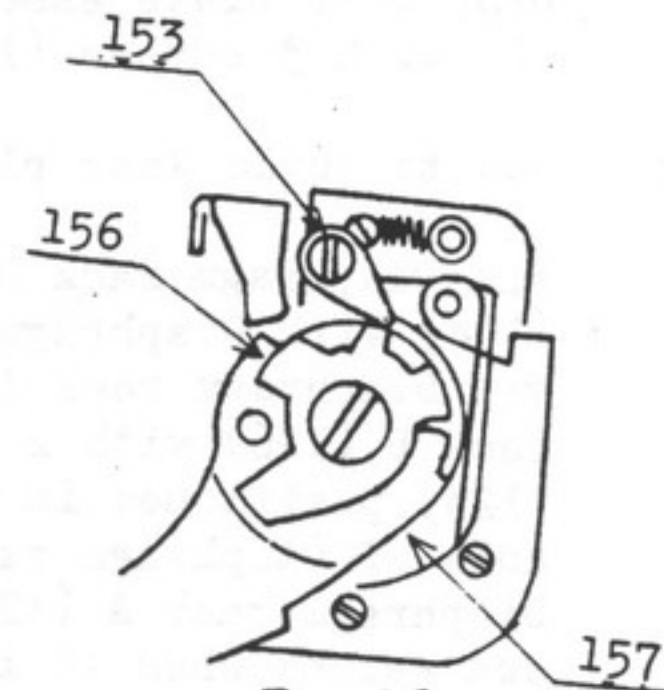
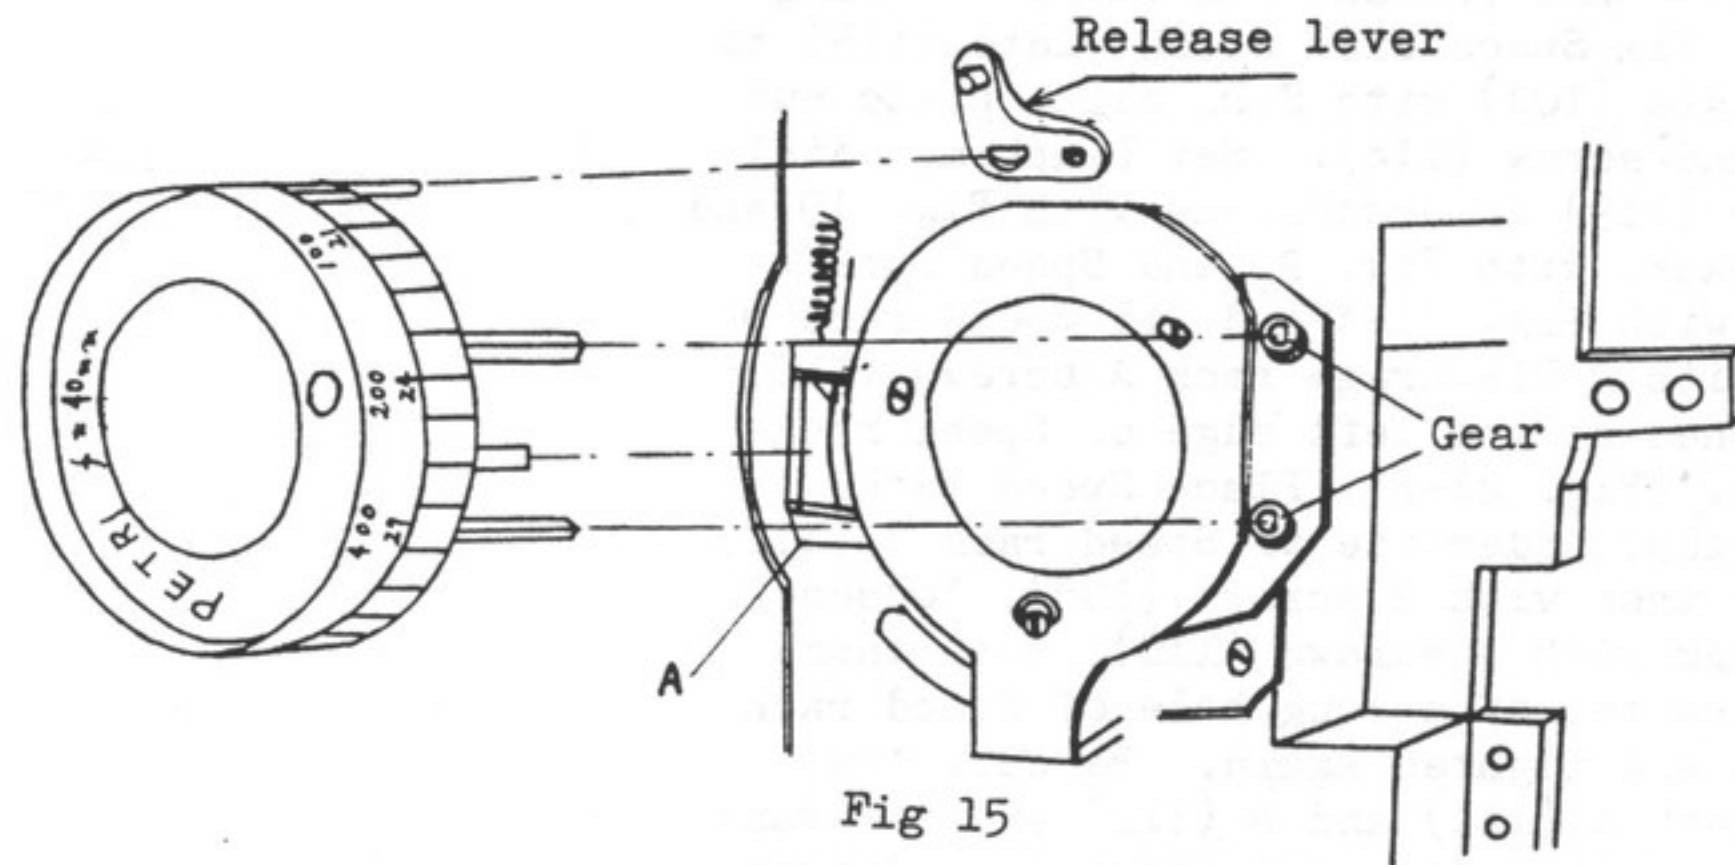

Fig 16
Fig 15
As shown in Fig 15, fit three D-shape axes on the side of the shutter assembly to D-shape holes of the gear and release lever on the camera body and tighten them with Shutter ring (31) from behind the body by using Tool K204251. When shutter is set by actuating Wind lever (157), Double stop pawl (153) should stop against Double wind stop plate (156) at such a position as illustrated in Fig 16 then operate Wind lever (157) again and confirm that Wind lever (157) can not be wound also Sprocket (203) does not transport film. Further, when a thumb is let go of Wind lever (157) suddenly at a position where it has been fully wound, it can not be wound again. In case Wind lever (157) is wound again, bend A part of Winding gear plate (184) with Tool 204118. (Fig 15)